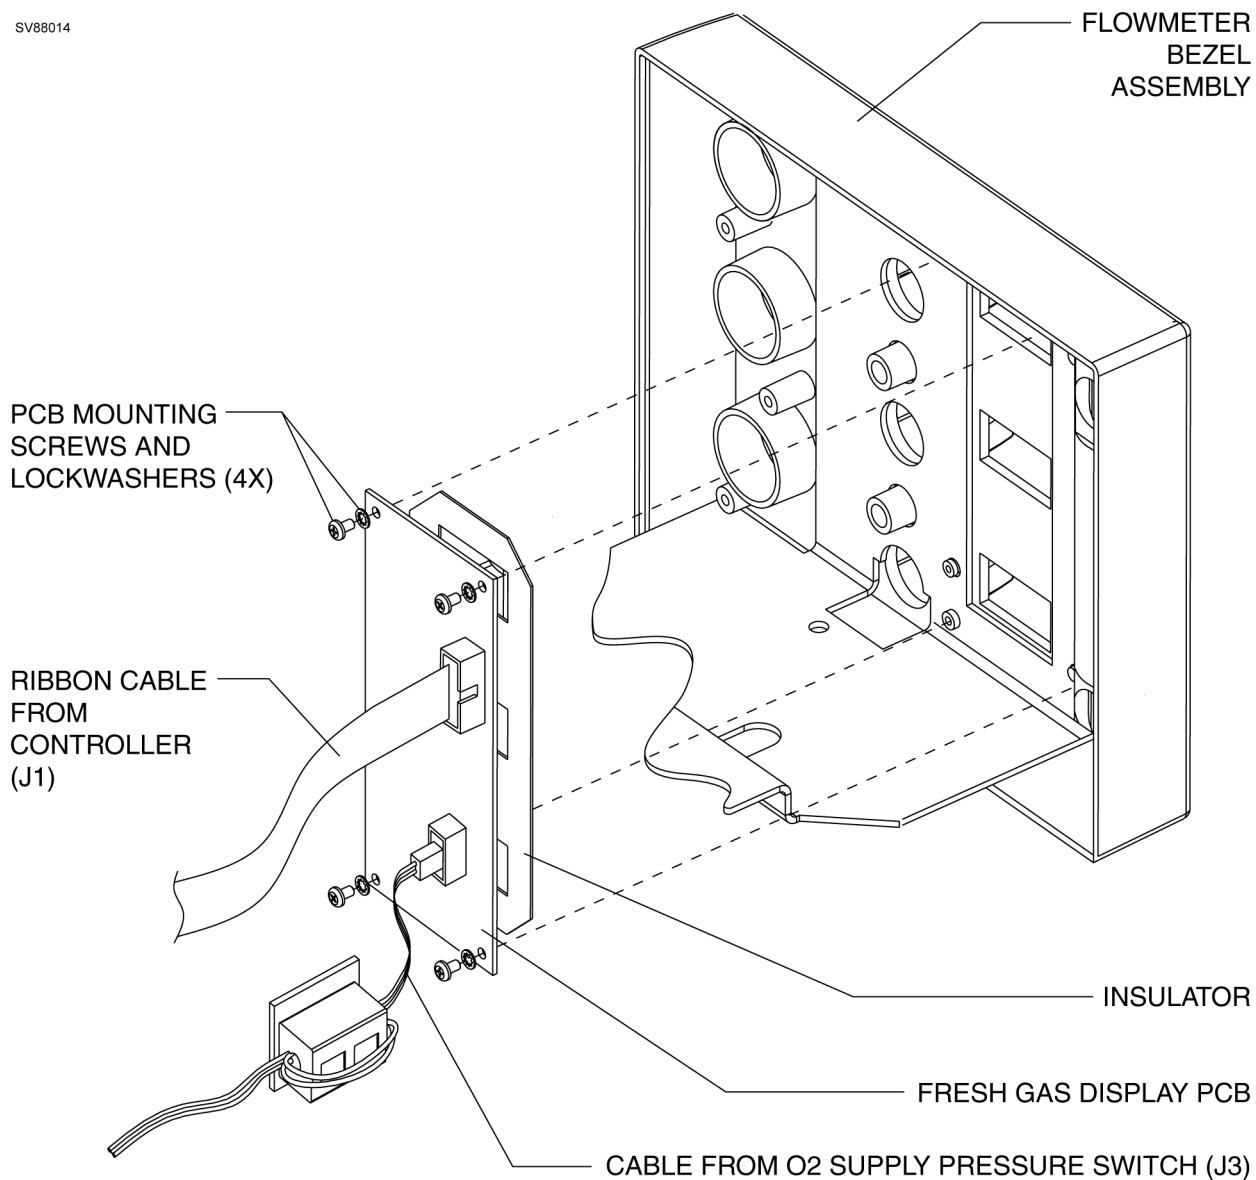

Figure 27 Fresh Gas Display PCB
Access to the fresh gas display PCB requires removal of the Flow Meter Bezel Assembly. Figure 27 shows the cable connections and PCB mounting details. For clarity, other sub-assemblies are not shown in the illustration.
10. Disconnect the cables from the fresh gas display PCB where shown in Figure 27.